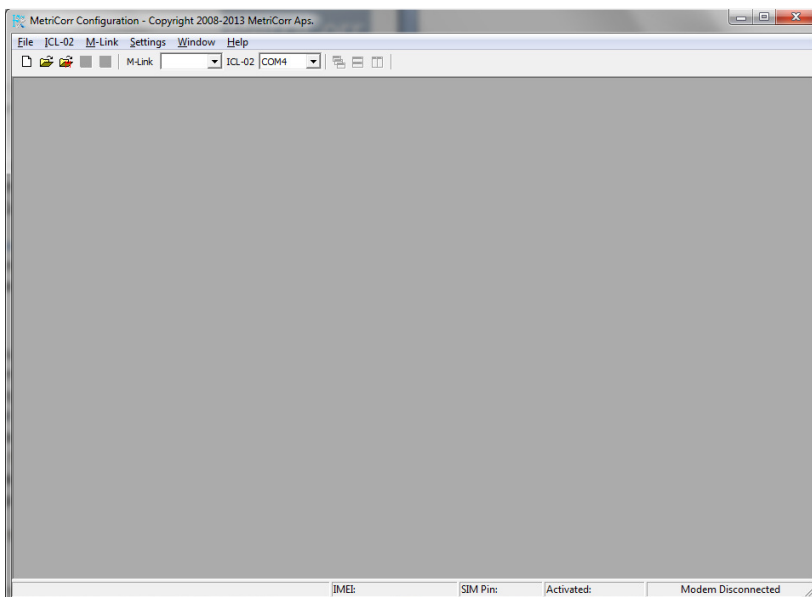

Figure 1. Start window
3. Start the M-Config software from the start menu and the start window Figure 1 will appear on screen